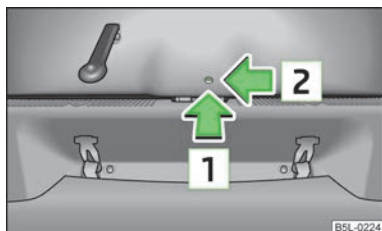

Fig. 17
- Insert a screwdriver or similar tool into the opening in the trim in the direction of the arrow [\[1\]](#) » Fig. 17 as far as the stop.